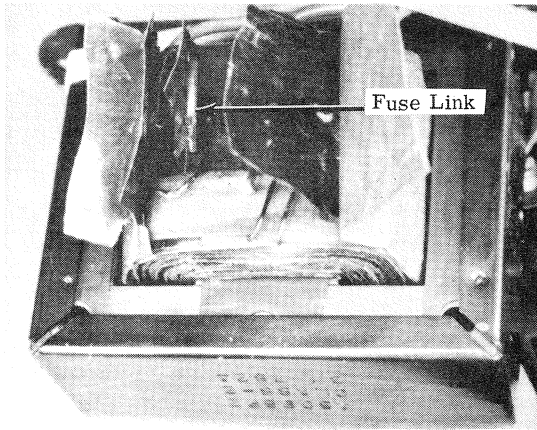

Figure 3-23. Transformer Fuse Link Replacement.
- b) Carefully cut through the outer insulation between the power wire connections of the transformer to uncover the fuse. Figure 3-23. Transformer Fuse - link replacement.